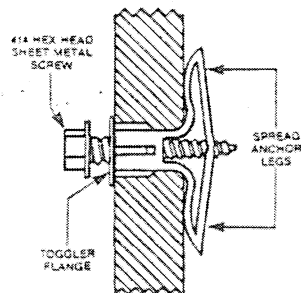

FIGURE 5
01.25 Thread the #14 hex head sheet metal screws into the small holes in the center of the togglers. Leave approximately 3/16-inch clearance between the bottom of each screw head and the mounting surface (Figure 5).